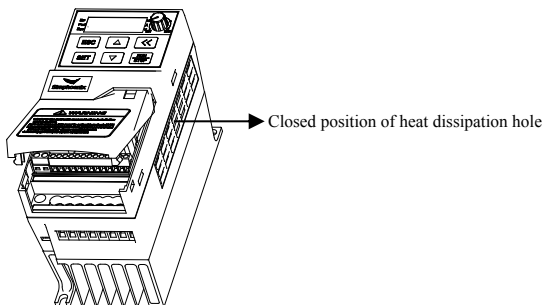

Figure 2-1-A
7. If there is too much dust in the environment, please close the cooling hole.(As show in figure 2-1-A)
See Figure 2-1-B for installation spacing and distance requirement for single inverter. Enough space should be leaved around the inverter. For installation of multiple inverters, baffle plate should be applied between inverters to ensure good heat dissipation, as shown in Figure 2-1-C.